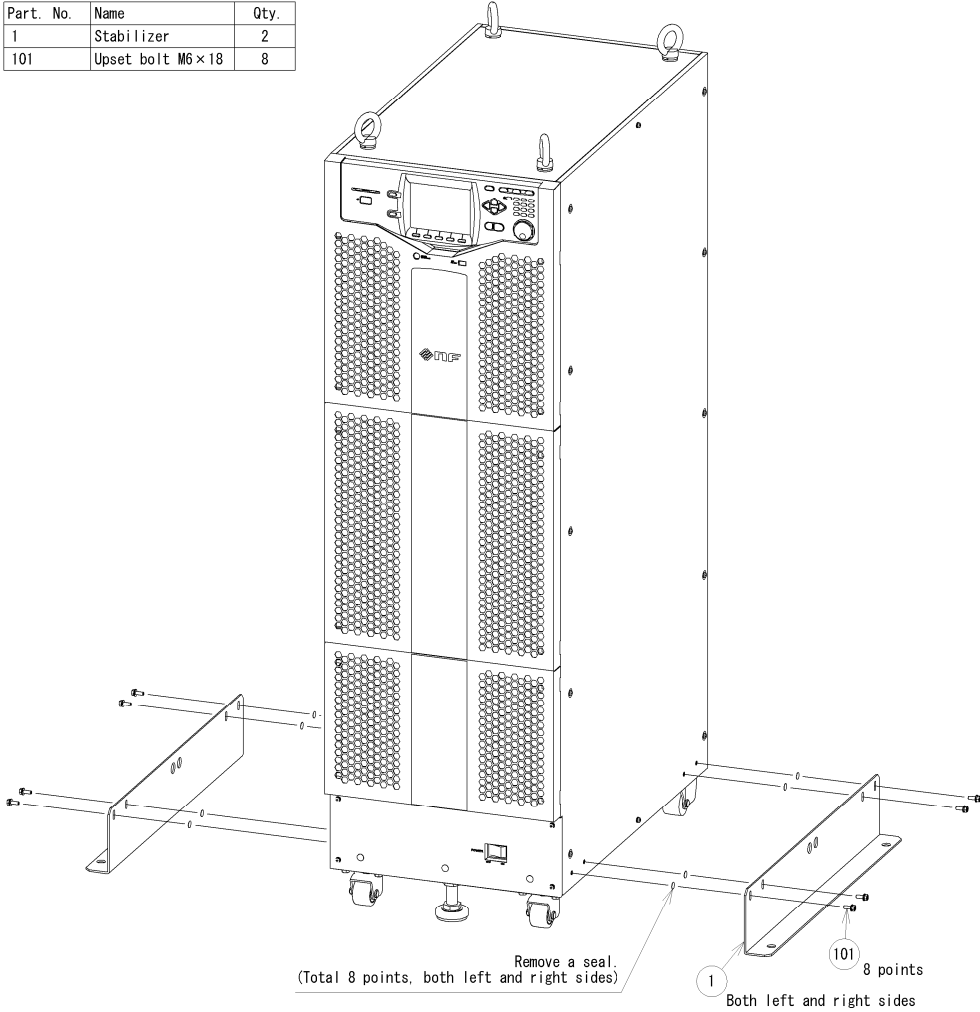

Figure 2-2 Assembly Diagram of Stabilizer
* Refer to Figure 2-2 and assemble the stabilizer, because it is necessary to ensure stability of DP160LS.
- Refer to Figure 2-2 and assemble the stabilizer of accessories of DP160LS, because it is necessary to ensure stability